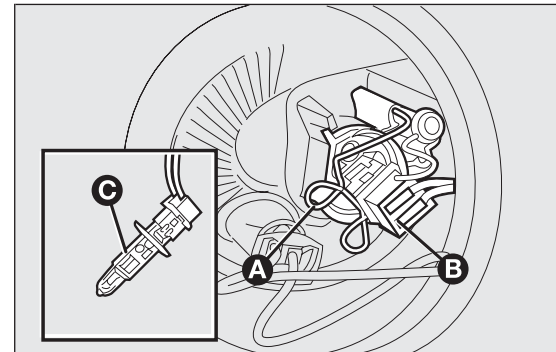

fig. 160
- release the bulb holding clip A fig. 160;